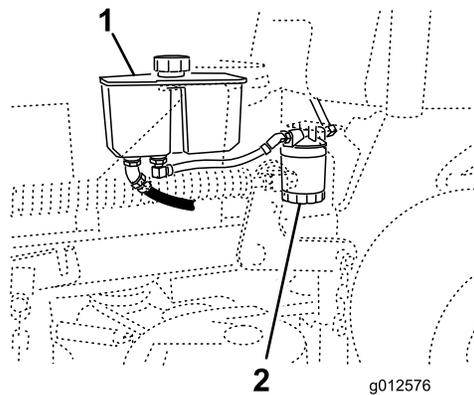

Figure 74
3. Locate the filter and place drain pan under filter (Figure 74).